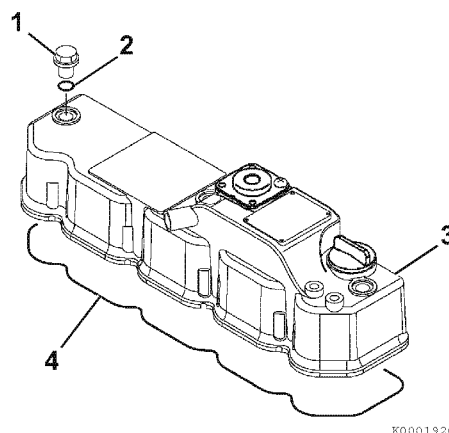

Figure 6-7
1. Remove the valve cover nuts (1, **Figure 6-7**).
2. Remove the O-ring (2, **Figure 6-7**) on each valve cover nut.
3. Remove the valve cover (3, **Figure 6-7**) and the valve cover gasket (4, **Figure 6-7**).